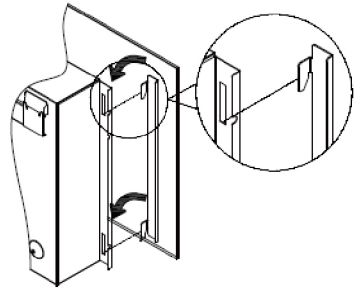

Fig.4
- Place the front glass panel over the front of the heater aligning the hooks at each side of the glass panel with the slots at each side of the heater body-See Fig.4. Then slide down the glass panel in place. Again two people will be required for this operation.